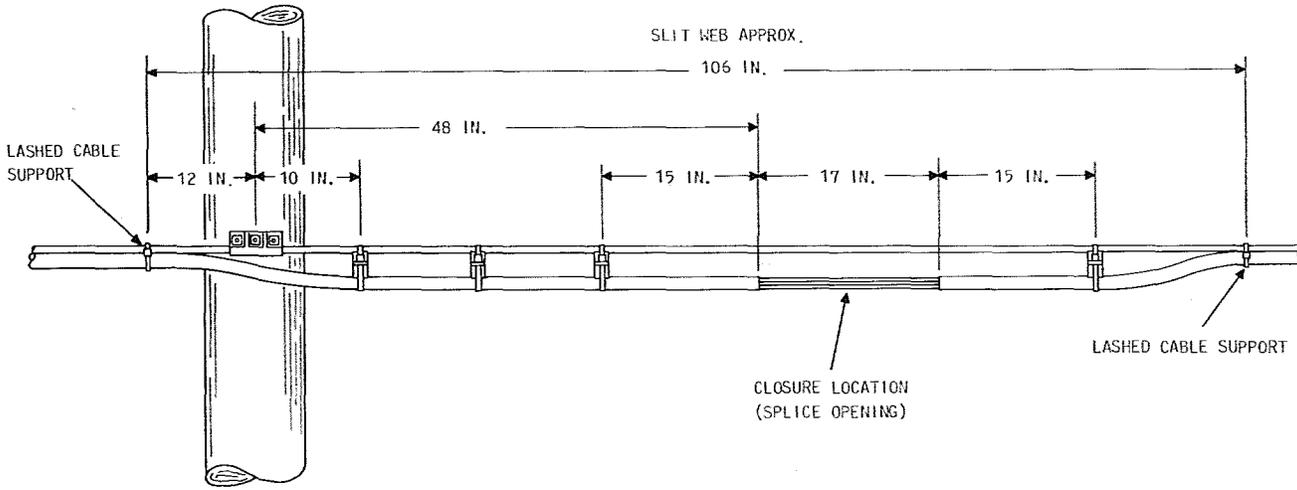

Fig. 3—Self-Supporting Cable—In-Line Pole
3.01 Figures 3, 4, 5, and 6 illustrate the locations for mounting the cable closures. These locations are for both lashed or self-supporting cables.